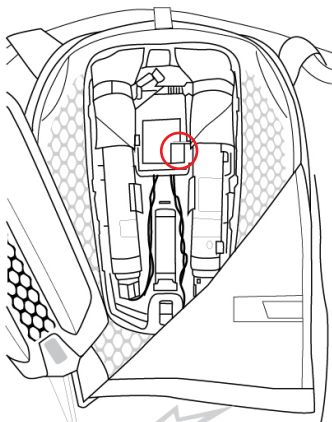

Figure 30: Shipping Mode switch location
When shipping the System, the User **MUST** put the System in SHIPPING MODE. In order to do so, the User has to access the System's Electronics by opening the Electronic Case (16) and using the Shipping Mode Switch (14), located as indicated in Figure 30. After setting the Shipping Mode to ON, by sliding the white button up, the User can ship the System. In order to return to the normal System functioning, the User has to set the Shipping Mode to OFF, by sliding the white button down towards the bottom of the back.